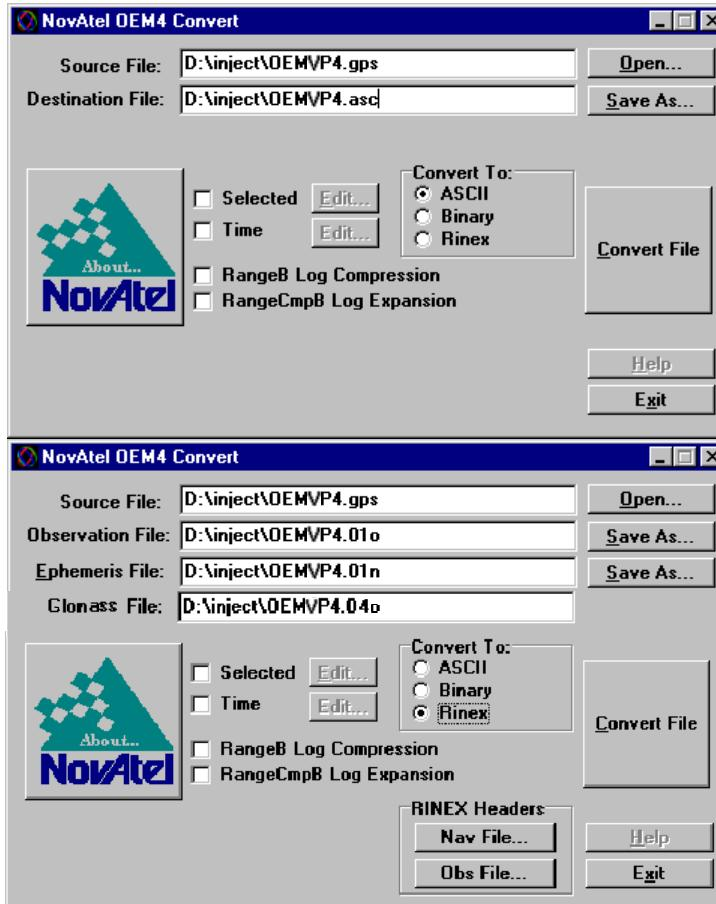

Figure 17: Convert4 Screen Examples
Convert4 is a 32-bit Windows application. It is shown in *Figure 17*. Convert4 will accept GPS file formats and convert them to ASCII, Binary or RINEX format. The application also allows the user to screen out particular logs by selecting the desired logs from the list of available logs. This feature is useful for screening particular logs out of large data files in either ASCII or Binary formats.
Selecting the RINEX field, see *Figure 17, Convert4 Screen Examples on page 65*, in the Convert4 To section causes the:
- a. Information from this log overrides data entered into the Receiver Number, Type and Version fields using the OBS file button of the RINEX Headers section, see *Figure 17 on page 65*.